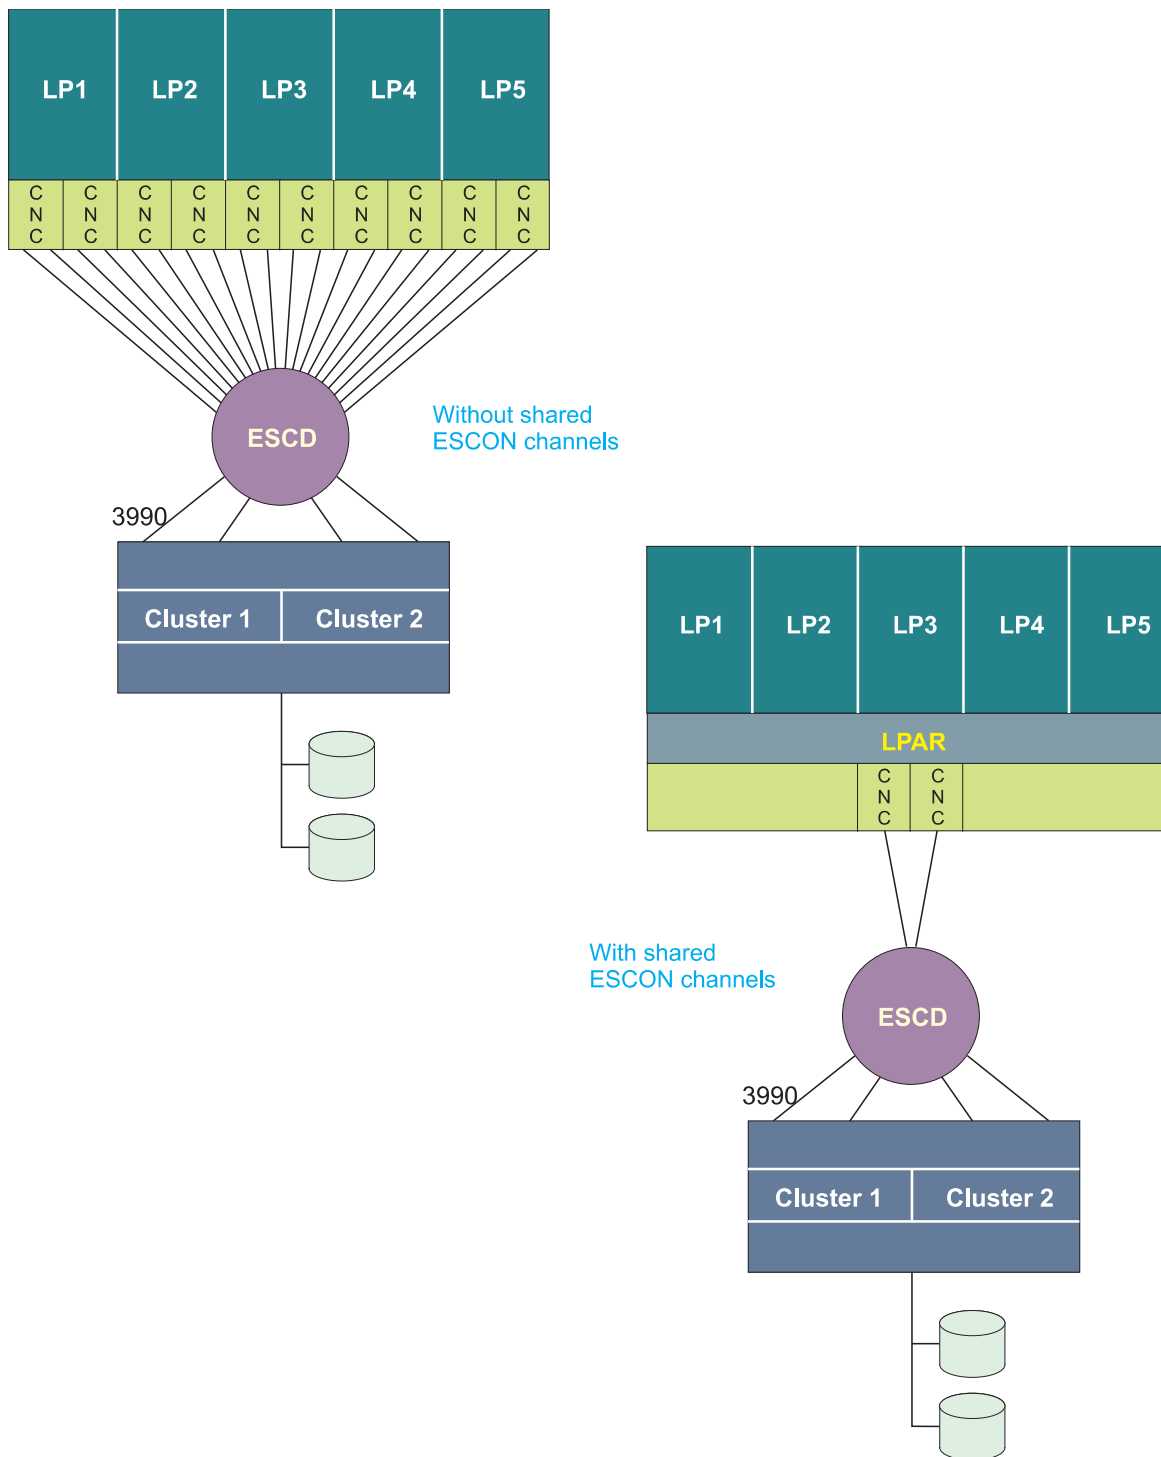

Figure 14. Consolidating ESCON channels and ESCD ports
*ESCD configurations:* Figure 14 shows how shared ESCON channels can reduce ESCD port requirements. In this example, two shared ESCON channels replace 10 unshared (dedicated or reconfigurable) ESCON channels and use eight fewer ESCD ports without a reduction in I/O connectivity.